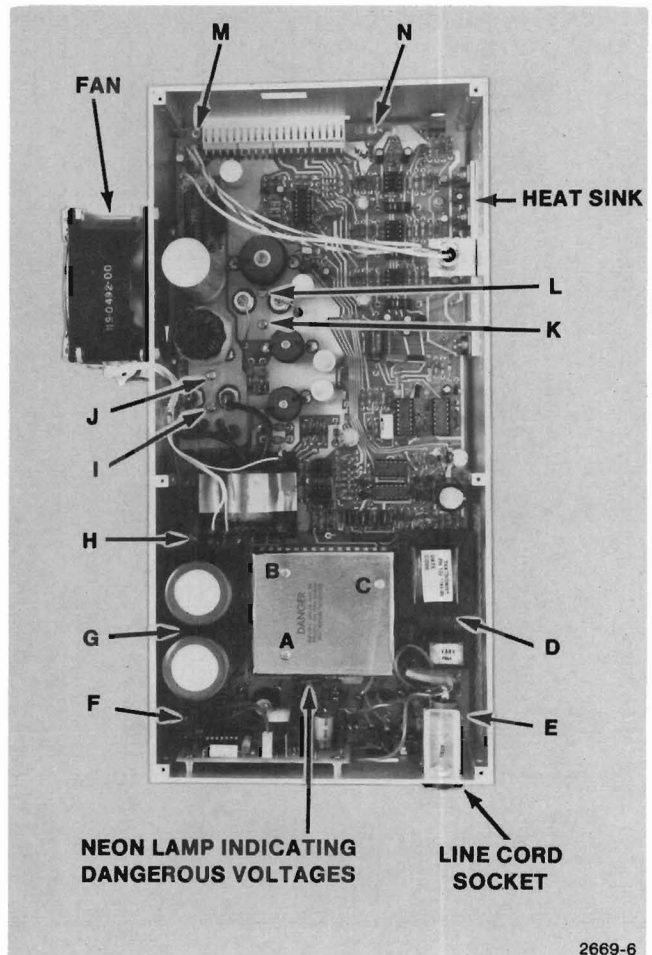

Figure 3-11. Power Supply Circuit Board Screw Locations.
- To remove the Main Power Supply circuit board, first unsolder the three wires on the line cord socket (refer to Figure 3-11).
- Remove the screws A, B, and C on Figure 3-11 and lift the metal cover (shield).
- Remove the screws D through N on Figure 3-11. The board can now be lifted out of the metal chassis.